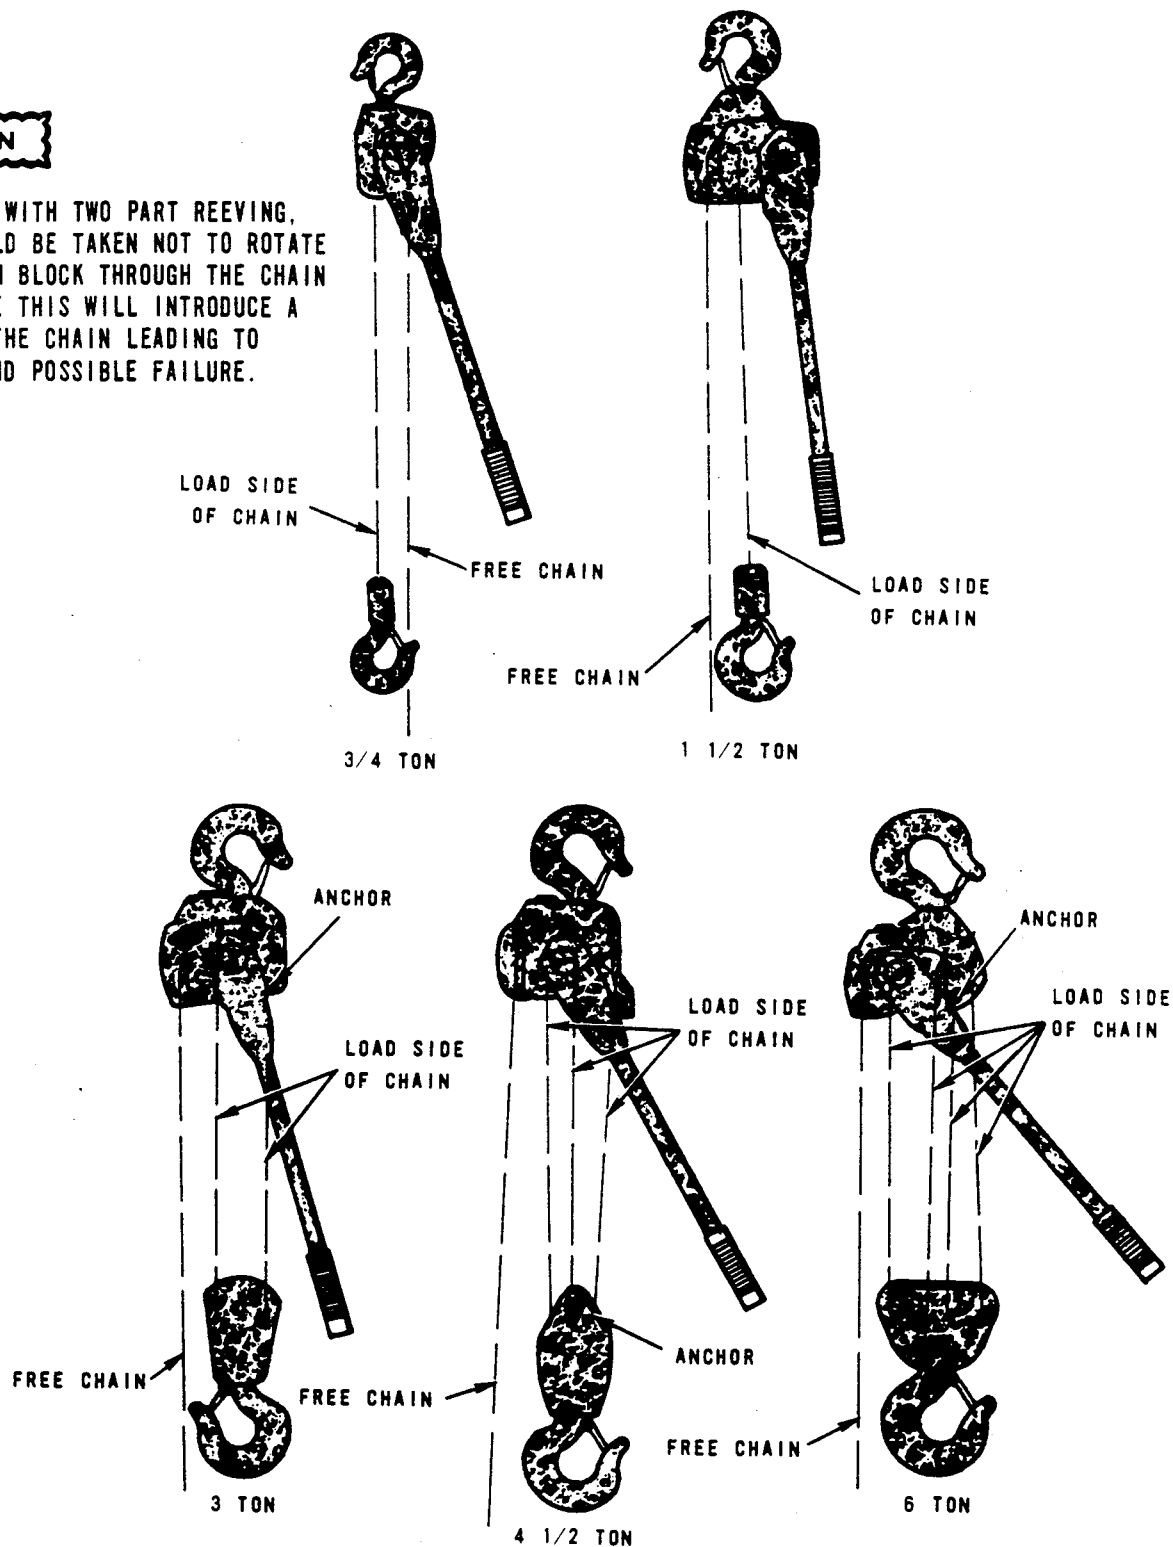

Figure 7. Hook alignment, showing load side and free side of chain when properly assembled.
- (b) **ROLLER CHAIN:** Remove the split retainer or two (2) cotter pins from chain stop link. Remove link side plate roller stop, side plate and pins from end of chain.
- (d) Hold down free wheeling lever to disengage load brake pawl. Pull chain out of hoist. When replacing link chain, See Figure 6 page 12, and Figure 7 page 13.
- ROLLER CHAIN:** Remove the split retainer or two (2) cotter pins from chain stop link. Remove link side plate roller stop, side plate and pins from end of chain.
- Hold down free wheeling lever to disengage load brake pawl. Pull chain out of hoist. When replacing link chain, See Figure 6 page 12, and Figure 7 page 13.
- (d) washer and screw. Position and install chain assembly. If chain has been removed for any reason be sure that it is properly installed as shown in Figure 7 on page 13.
- (a) Place pul-lift on a clean work bench. Remove chain assembly as follows: Place selector lever in neutral position. Push down on free wheeling lever to disengage load brake pawl. Allow bottom block to be pulled away from upper unit approximately one (1) foot.
- (f) Install chain assembly. If chain has been removed for any reason, be sure that it is properly installed as shown in Figure 7, page 13.
DO NOT KINK OR TWIST CHAIN. WHEN REPLACING HOOK OR CHAIN BE CERTAIN BOTTOM BLOCK IS ANCHORED TO LOAD SIDE OF CHAIN. See Figure 7 on page 13.